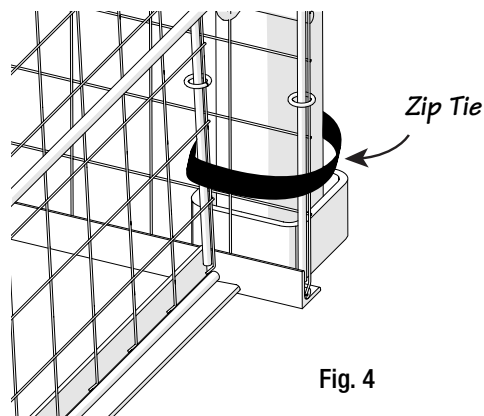

Fig. 4
maximum of thread. Fig 4.
4. Secure the bottom corner fences with a Zip Tie. Secure the Zip Tie around the fence and post. Fig 4.